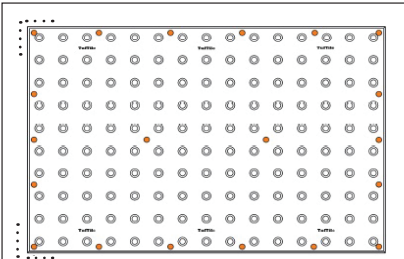

Fig. 1
3. Place **TufTile SA** on the concrete specifically where it is to be installed and mark the concrete at two corners. **(Figure 1)** Remove the TufTile from the marked location.